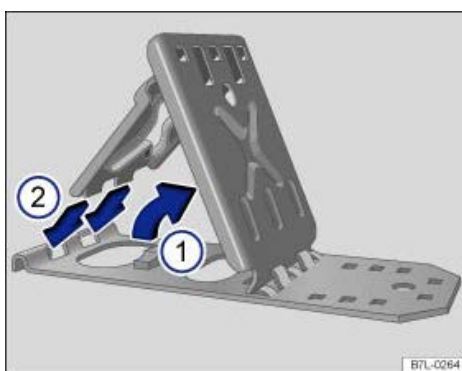

Fig. 233 Folding out the collapsible chock.
- Lift up the support plate → *Fig. 233* ① .
- Fold out the securing plate and insert the two lugs on the securing plate into the slotted holes on the base plate ② .